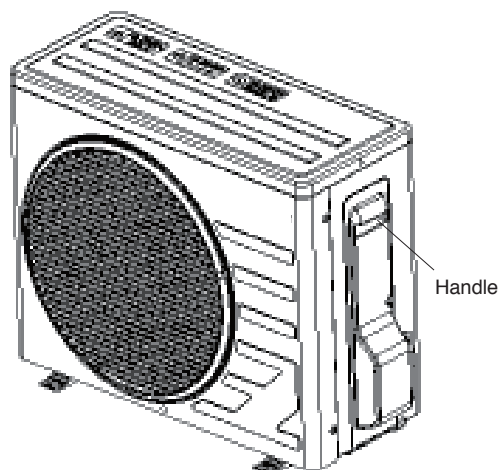
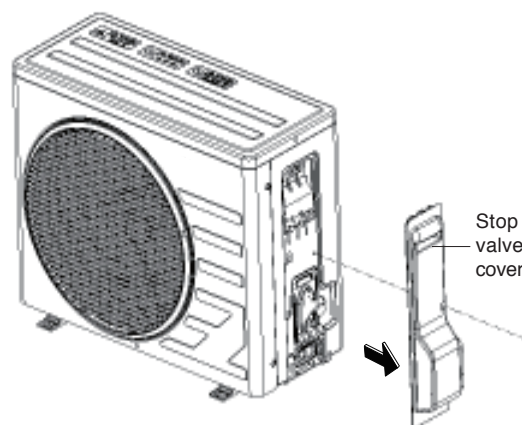

Fig. 51
Fig. 52
- (1) Loosen the screw of the stop valve cover. (Fig.51 and Fig.52)